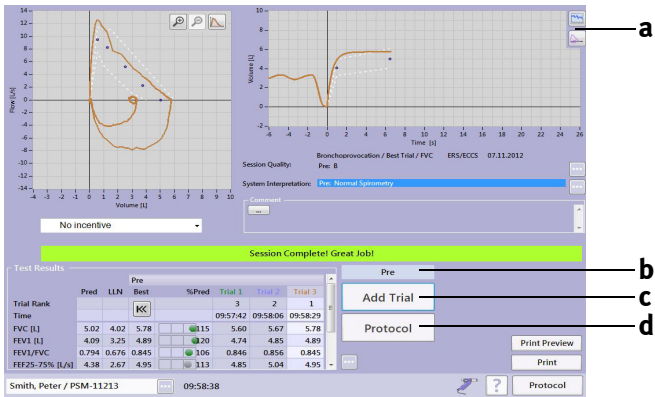

Fig. 3-24 Screen after three acceptable expiratory FVC measurements
- Click **Protocol** (d, Fig. 3-24) to display the protocol screen.
With key **a** (Fig. 3-24) you can display the test diagram (response curve) at any time during the test.